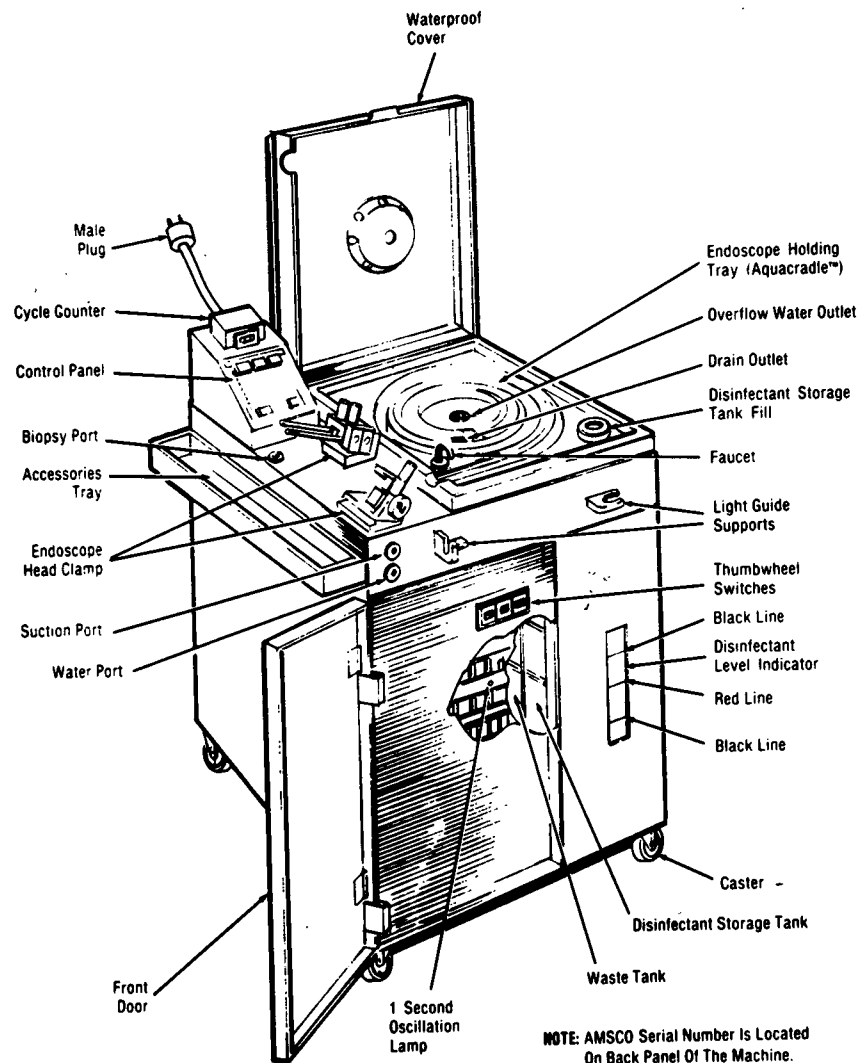

Figure 5-1. LOCATION OF EXTERNAL COMPONENTS.
1. Check the operation of the endoscope head clamp (see Figure 5-1 for location of clamp).
6. Locate the cycle counter shipped loose with the machine. Connect the male plug of the cycle counter to the female plug of the machine located in the rear of the machine (reference Figure 5-1).
- b. On the control panel of the Endoscope Processor, press the "power" switch. Note that the "power" switch is lighted (reference Figures 5-1 and 5-3).
- c. Open the front door and observe the one-second oscillation lamp located in the PCB circuit. Using a stop watch, check that the lamp flashes on and off for 60 pulses  $\pm$  three pulses in 60 seconds (reference Figure 5-1). This is the case for 60 cycle utility power. If 50 cycle utility power is to be used, remove the front cover and locate the switch next to the oscillation lamp. Move switch to other position. The lamp will oscillate 50 pulses  $\pm$  three pulses indicating the unit is set on 50 cycle operation.
### 4. Leak Testing of Solenoid Valves S6, S7, and S8 (Reference Figures 5-1 and 5-2):
#### 1. Wash Cycle Operation (reference Figures 5-1, 5-3 and 5-4):